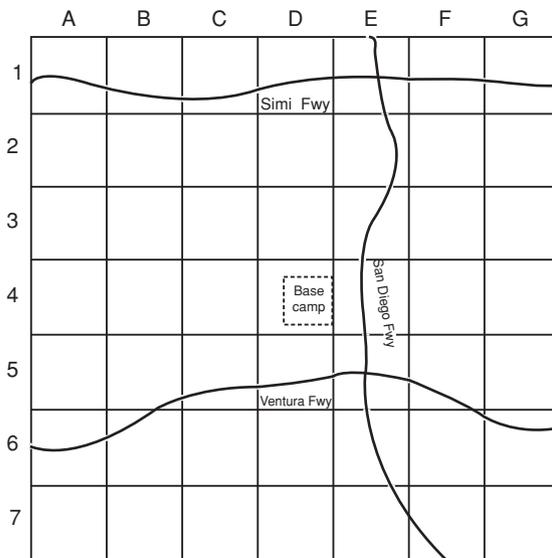

FIGURE 11-7: An example of a map used for Treasure Hunt.
The first section, “TH0504” is a unique game name (TH) and date (May 2004). The second section, “P5” means page 5 in a pre-determined map handout, booklet, or publication. “J-4” represents the grid coordinates on that map (see Figure 11-7). And the final section “03” means this is clue number three (numbering is optional, but it’s nice to have).